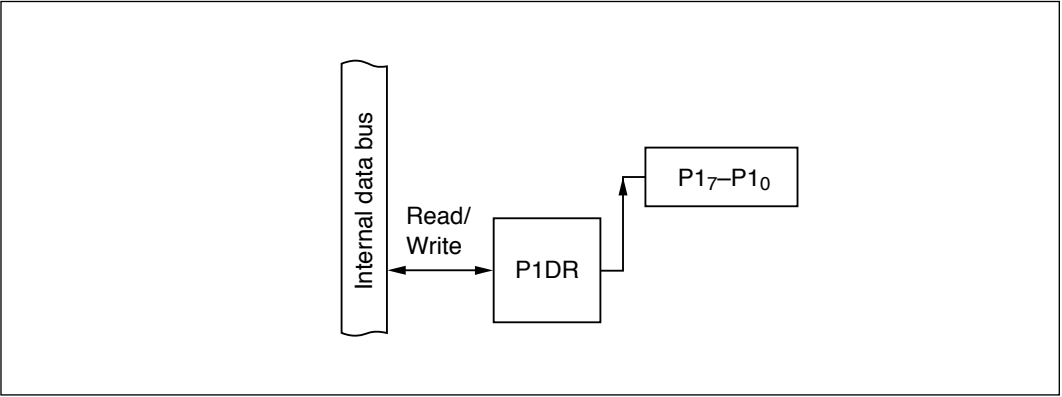

Figure 9-7 Output Port (Mode 7)
(3) Output Port (Mode 7): Figure 9-7 shows a block diagram illustrating the general-purpose output function. Table 9-5 indicates register read/write data. The value written in the port 1 data register (P1DR) is output at the pin. When read, P1DR returns the value written in P1DR.